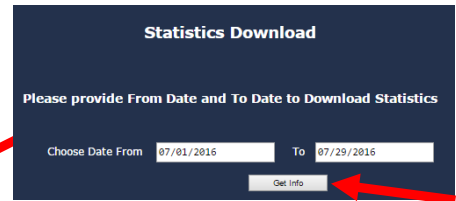

Figure 14
15. Select the date range for the desired statistics and click on Get Info (see Figure 14).